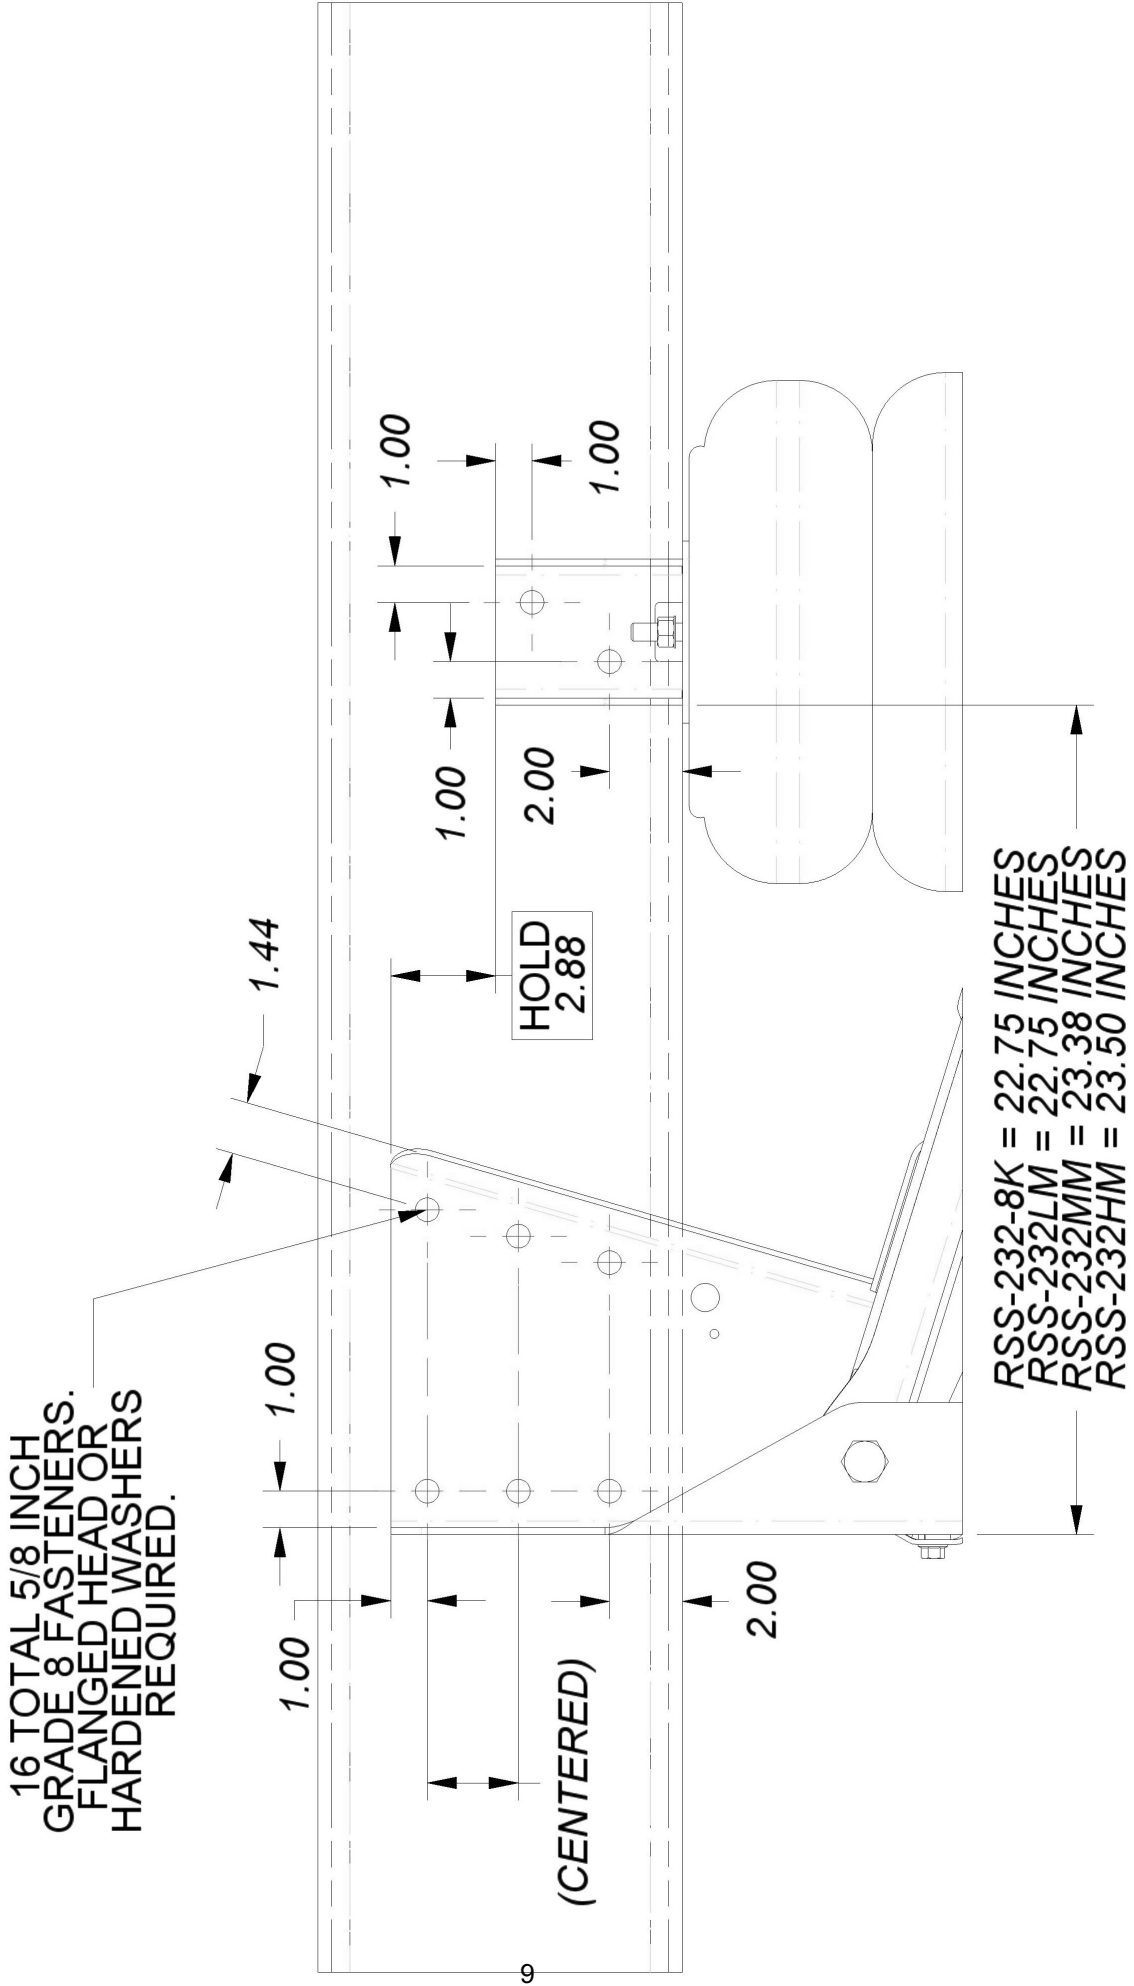

FIGURE 4
4. Center punch and drill 12 total 21/32 inch holes in the locations shown in **Figure 4**. If it is not possible to use the recommended bolt locations, the total number fasteners must be maintained. Spacing groups of fasteners apart as far as possible provides the greatest strength. Use caution when drilling near wires, hoses or other components located within the frame rail. Bolt the hangers and air spring plates to the frame with 12 total 5/8 inch grade 8 bolts and prevailing torque lock nuts. Hardened washers or flanged fasteners are required.
5. Remove the air spring plate or installation tool from the hanger. Locate the air spring plates at the dimension shown in **Figure 4** and clamp them firmly into place. The spacer, if required, must also be clamped into place between the air spring plate and the frame rail. A 3/4 and a 1/2 inch fastener can be used to temporarily secure the spacer to the air spring plate through the air spring mounting holes. A dimension of 2.88 inches from the top of the hanger to the top of the air spring plate should be held at all times, with or without air spring spacers. Center punch and drill 4 total 21/32 inch holes in the locations shown in **Figure 4** and install 4 total 5/8 inch grade 8 bolts and prevailing torque lock nuts. Hardened washers or flanged fasteners are required.